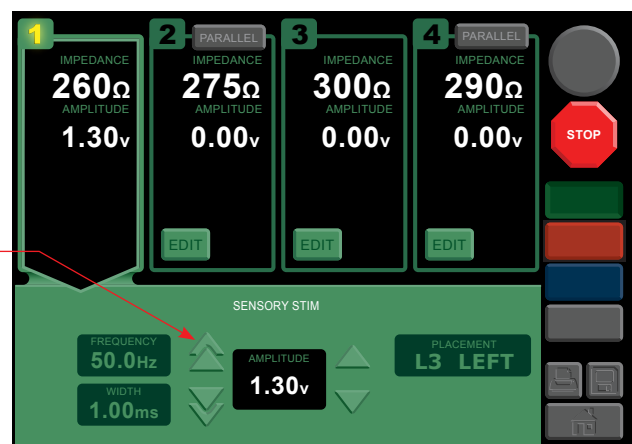

Figure 17 Typical Stimulation Screen - ACTIVE
- Touch the START button to apply stimulation energy using the setting values displayed in the procedure tab area. The active electrode identifier number will flash and an audible beep will sound to indicate the stimulation energy is applied (see figure 17).